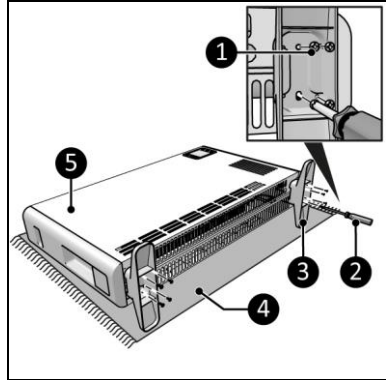

Figure 8
1. Lay the device down on a steady soft surface (Figure 8, pos. 4).
2. Place the pedestals (Figure 8, pos. 3) on both sides of the main body (Figure 8, pos. 5).
3. Screw and tighten the pedestals with the small screws (Figure 8, pos. 1) using the two center and two outer holes, with a Phillips screwdriver (Figure 8, pos. 2).